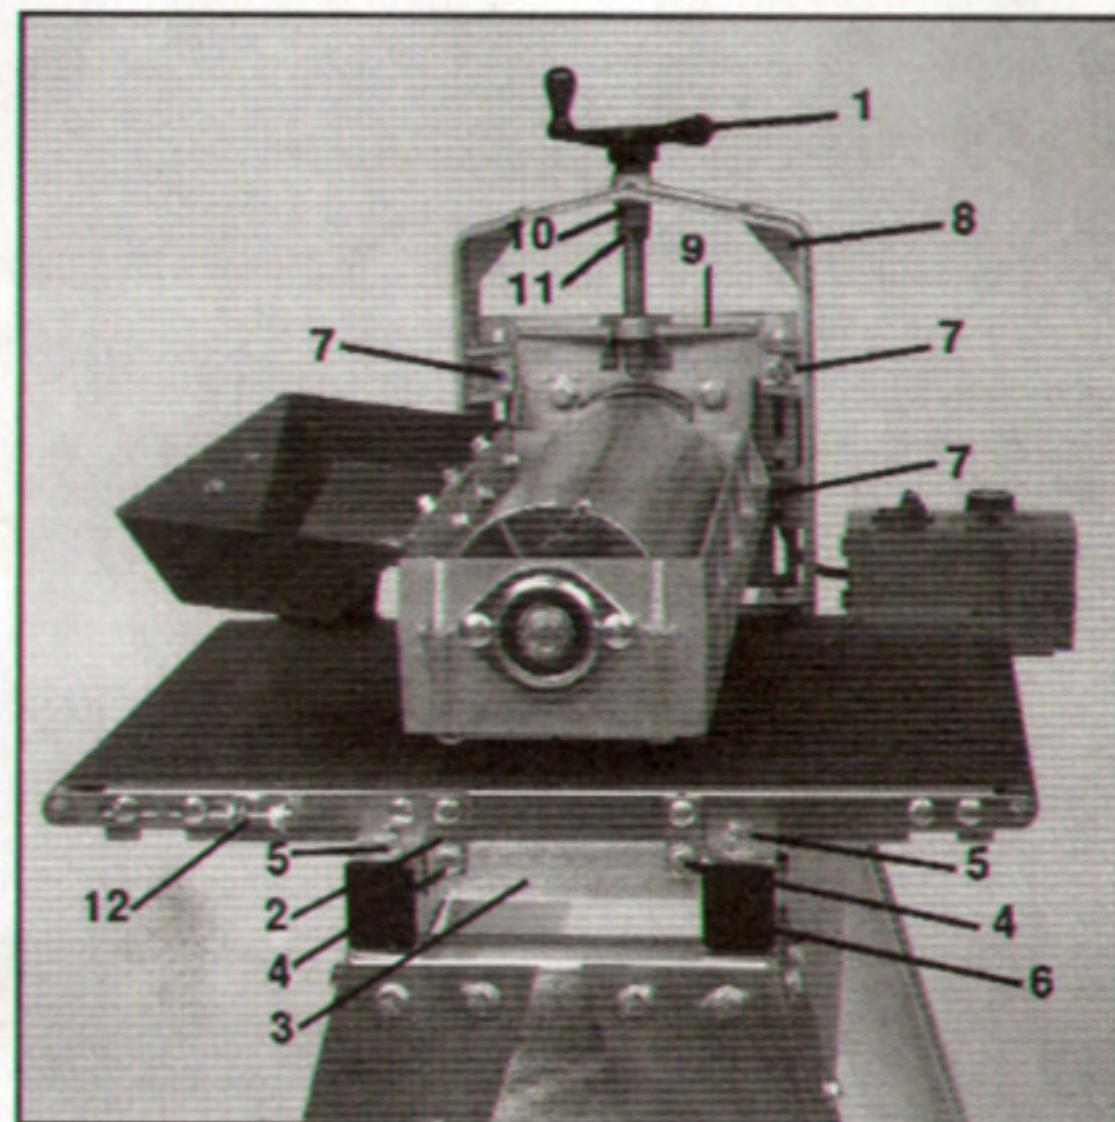
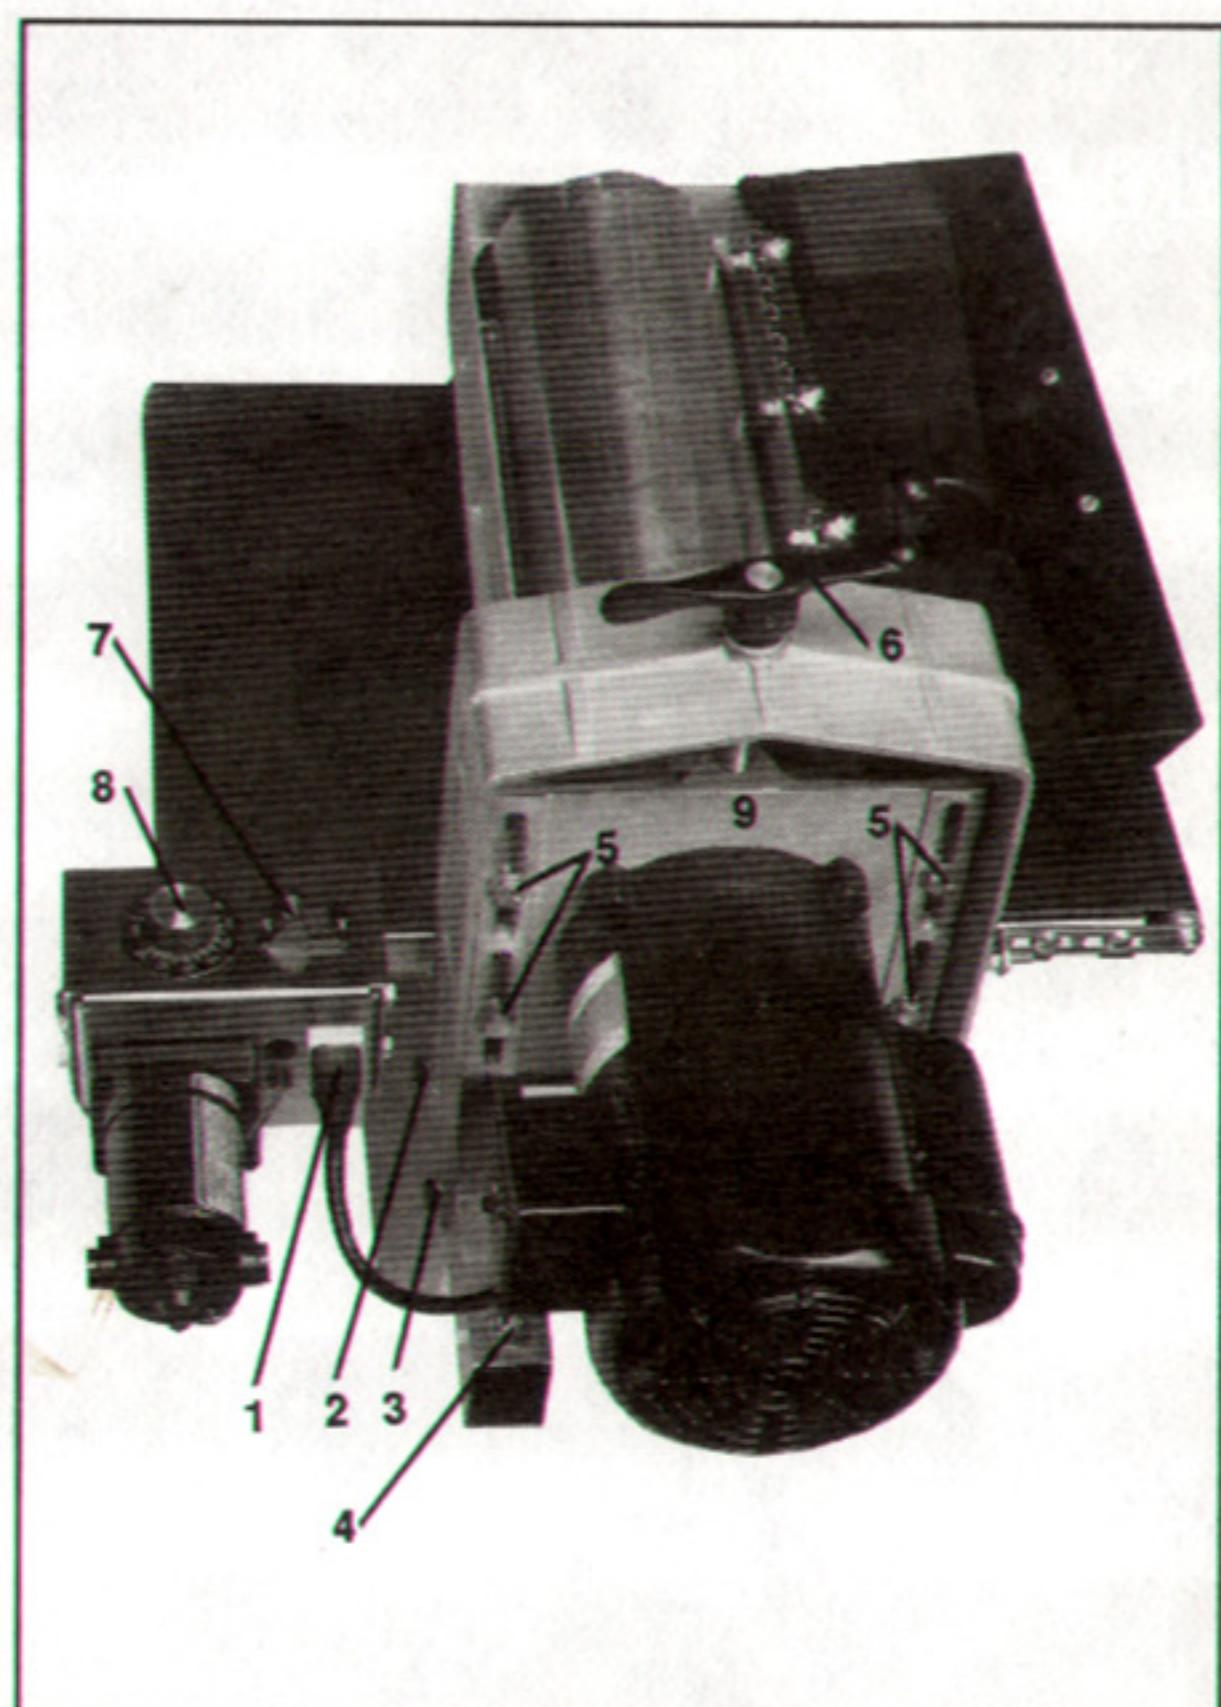
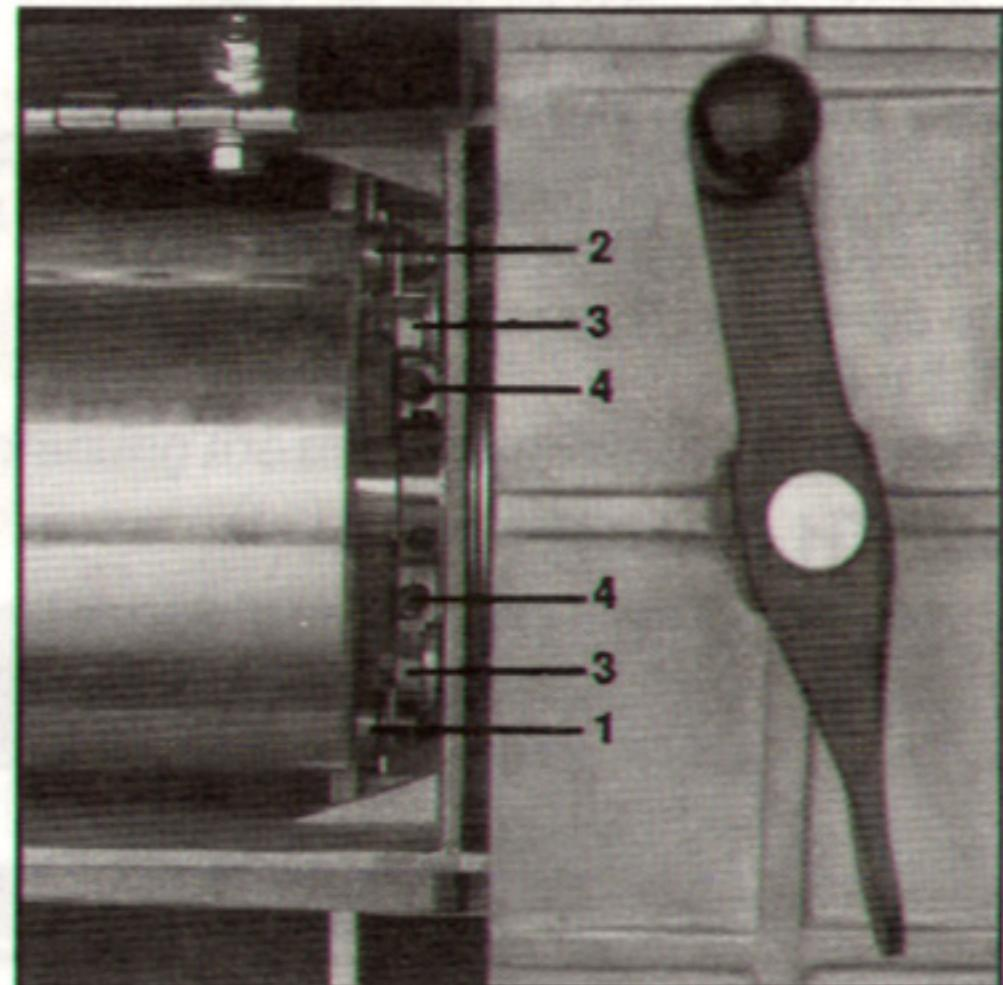

Figure 1
Figure 2
Figure 4
ASSEMBLY (See Fig. 1)
To assemble, raise the drum to its highest elevation by turning the height adjustment handle (1) in a clockwise direction. Install the power feed conveyor on the machine base rails (5) so that the conveyor mounting brackets (2) are located to the outside of the base rail cross brackets (3). With the bracket holes aligned, install four 5/16 hex head bolts(4) and 5/16 square nuts (provided). Connect motor cord plug (1) (see Fig. 2) into control box receptacle.
The PERFORMAX 16-32 sander may be operated by simply resting it upon a table or bench. Mounting holes are provided in the machine base rails (5) (Fig. 1) and (4) (Fig. 2) for permanent, secure mounting to stand or bench.
The drum height and depth of cut is controlled by the height adjustment handle (1) (Fig. 1). Turning the handle in a clockwise direction raises the drum.
- Adjust all four Gib screws (5) (Fig. 2) by first tightening Gib screws then loosening 1/8 to 1/4 turn. If Gib screws are set too tight, height control will not operate easily. If Gib screws are too loose, excessive deflection of the outboard end of the drum carriage will result. Apply lubricant to front and rear portions of motor mount (9) (Fig. 1 & 2).
NOTE: The Gib screws turn hard and may require the use of vise-grips on the screwdriver shank to adjust. If necessary, in order to turn Gib screws, loosen four lock nuts (7) (Fig. 1) on the front side of housing (8) (Fig. 1). Adjust Gib screws and hold in position while re-tightening lock nut.
- Push height adjustment handle (1) (Fig. 1) downward to set firmly on housing (8) (Fig. 1). Loosen set screw (10) (Fig. 1) of shaft collar (11) (Fig. 1). Slide shaft collar upward against housing so that all vertical free-play of height adjustment screw is eliminated. Lubricate around washers beneath handle and above collar.
2. Reach under the drum carriage and lightly raise infeed tension roller (1) (Fig. 4) so that the tension roller does not interfere with the thickness gauge measurement. While holding tension roller up, slide the wood thickness gauge between the drum and conveyor bed for each end of the drum. It may be necessary to slightly raise or lower sanding drum to "feel" the thickness (distance between drum and conveyor bed) at each end of the drum.
3. If drum alignment is necessary, loosen bolts (2 & 3) (Fig. 2). This allows entire drum carriage and housing to pivot on bolt (2). Place the wood thickness gauge under the outer end of the drum and place your left hand on top of the outer end of the drum to hold it securely on the wood gauge. Turn height adjustment handle clockwise to raise inboard end of drum or counter-clockwise to lower inboard end of drum. A 1/4 turn of the handle will raise or lower the inboard end of the drum approximately 1/64". Re-tighten bolts (2 & 3) (Fig. 2). Re-check alignment by repeating Step 2 above. If necessary repeat Step 3.
1. Loosen all four bearing bolts (3) (Fig. 4). (NOTE: Fig. 4 only shows inboard end of drum. Adjustments must be made on both ends of drum.) This will allow both tension rollers to drop to their lowest position. Lower sanding drum to where it contacts the conveyor bed. Raise the sanding drum one turn of the height adjustment handle. Re-tighten bearing bolts (3) (Fig. 4). This procedure will position both tension rollers 1/16" below the bottom of the sanding drum.
- A. Loosen tension roller spring retaining screws (4) (Fig. 4).
Repeat Step 1 (see Tension Roller Alignment) except raise the sanding drum only 1/4 turn of the height adjustment handle (1) (Fig. 1). If both tension rollers are causing snipe then tighten all four bearing bolts (3) (Fig. 4) at this position. If only outfeed tension roller causes snipe, only tighten rear (outfeed) bearing bolts on each end of drum at this position, then raise sanding drum another 3/4 turn of the handle. Press infeed tension roller down to rest on conveyor bed and tighten front (infeed) bearing bolts at this position. This process sets the tension roller assembly at an angle providing less tension roller pressure on the outfeed roller.
Adjust the take-up screw nuts (12) (Fig. 1) on both sides of the conveyor to obtain approximately equal tension on both sides of the conveyor and to insure a taut conveyor belt. If the conveyor belt can be stopped by hand pressure applied directly to the top of the conveyor bed, the belt is too loose. Insufficient belt tension will cause slippage of conveyor belt on the drive roller during sanding operation. Excessive belt tension can result in bent rollers, premature wearing of bronze roller bearings, or premature wearing of conveyor belt.
After proper belt tension is obtained, turn the conveyor unit on, and run at fastest speed setting. Watch for a conveyor belt tendency to drift to one side of the conveyor. To adjust the belt tracking without changing belt tension, slightly adjust take-up screw nuts (12) (Fig. 1) on both sides of the conveyor to increase the roller center distance on the side the belt is drifting toward and reduce the roller center distance on the opposite side. Adjustment should be on the order of 1/4 of a turn of the take-up screw nuts (12) (Fig. 1), then allow time for the belt to react to the adjustment.
To replace conveyor belt, raise drum to highest position. Unplug machine from wall outlet and unplug motor cord from control box receptacle (1) (Fig. 2). Adjust conveyor take-up screws (12) (Fig. 1) to relieve belt tension. Remove four bolts (4) (Fig. 1) attaching conveyor assembly to base rail cross brackets (3) (Fig. 1). Lift up and slide conveyor out to the side of the machine. Set conveyor on motor side and slide conveyor belt off the end of the conveyor. Reverse process for installation.
MACHINE CONTROLS (See Fig. 2)
Height Adjustment Handle: (6) (Fig. 2) Raises or lowers sanding drum to select depth of cut.
Motor Starter Switch: (7) (Fig. 2) Starts and stops drive motor and sanding drum.
Feed Rate Control Knob: (8) (Fig. 2) Starts feed conveyor and selects feed rate from 0 to 100% (0-10 ft./min.)